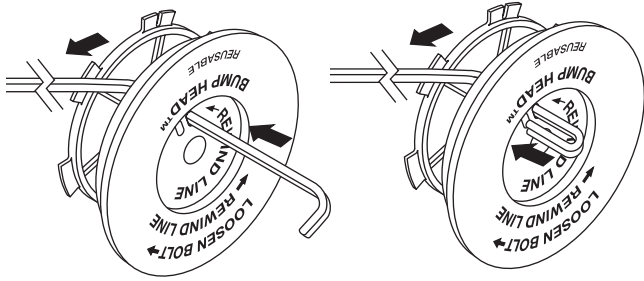

Fig. 29
8. Take approximately 2.5 m (8 feet) of new trimming line. Insert one end of the line through one of the two holes in the inner reel (Fig. 29). Pull the line through the inner reel until only about 4 inches is left out.
9. Insert the end of the line into the open hole in the inner reel and pull the line tight to make the loop as small as possible (Fig. 29).